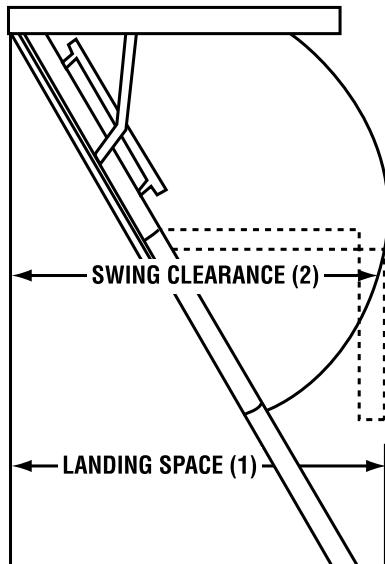

FIGURE 1 - WOOD STAIRWAYS
- Allow sufficient area for a safe landing space at the bottom of the stairway. Be sure there is enough clearance for the swing of the stair as it is being unfolded to its full length (see FIGURE 1 for "landing space" and "swing clearance"; match the ceiling heights shown on the packing carton with the same ceiling height in TABLE A to determine proper landing space and swing clearance requirements).